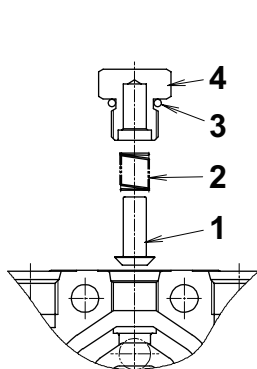

Fig.1 Check valve section
(1) Standard type (blade, swing, arm, boom swing, boom and bucket sections (See Fig. 1))